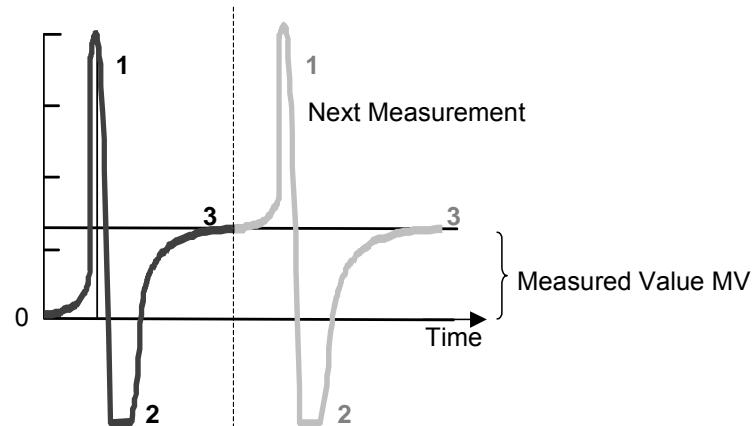

Fig. 13 Schematic Osmogram for a two droplets exchange
1. Apply the sample droplet — The signal indicates a positive overload, see  $\delta$  in Fig. 13.
2. Apply the solvent droplet — The signal indicates a negative overload, see  $\bullet$  in Fig. 13.
3. A constant measurement value is achieved when the thermal equilibrium is reached and the signal stops to increase, see  $\div$  in Fig. 13.
The pattern of the signal may resemble graphs given in Fig. 13.